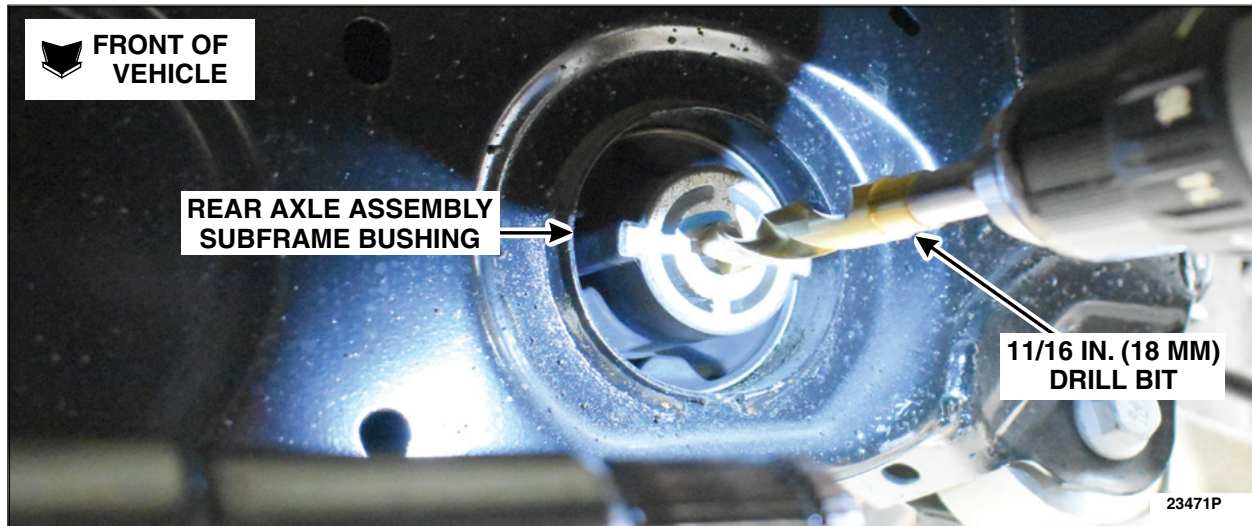

FIGURE 15
23. Using an 11/16 in. (18 mm) or larger drill bit, drill out the rear axle assembly subframe bushing bolt hole. See Figure 15. Click on the video link to see the drilling process: ▶